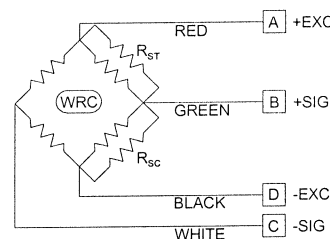

Figure 7 - Shunt Resistor Locations
Shunt calibration simulates the mechanical input to a transducer by unbalancing the bridge with a fixed resistor placed across, or in parallel with, one leg of the bridge. For tension shunt calibration, or +CAL, the shunt resistor (R_{st}) is shunted across the +Excitation (A) and +Signal (B) leg of the bridge. For compression shunt calibration, or -CAL, the shunt resistor (R_{sc}) is shunted across the -Excitation (D) and +Signal (B) leg of the bridge. Refer to **Figure 7** for shunt resistor locations in the Wheatstone Bridge circuit.